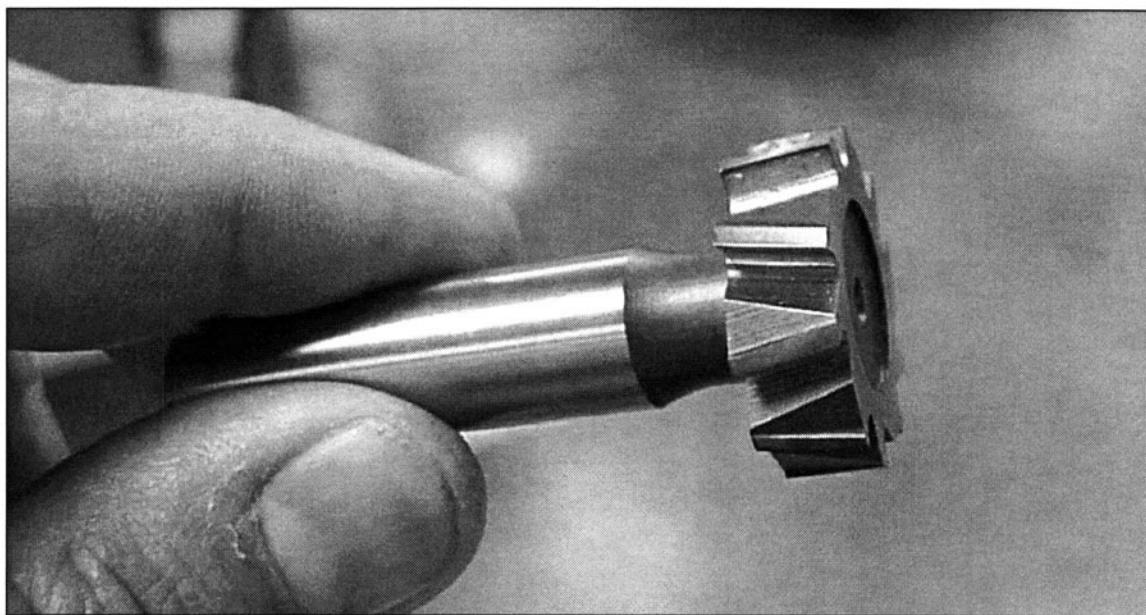

FIGURE 7-10 Stagger tooth key cutters cut with less pressure than straight toothed cutters and have less tendency to chatter.
11. *Use slant or stagger tooth Woodruff key cutters. (See Fig. 7-10)*